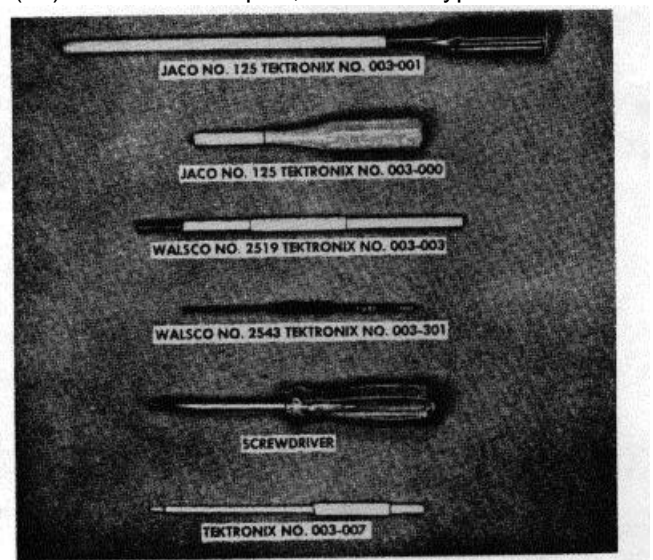

Fig. 6-1. Suggested Calibration Tools.
(6) Tektronix Type K or Type L Plug-In Unit. (If delayline adjustment is not required, other Tektronix Plug-In Units may be substituted.)
(7) Low-Capacitance Recalibration Tools: Tektronix part numbers 003-000-003-007 and 003-301. (See Recalibration Tools in Accessories Section of Operator's Manual and Fig. 6-1).
(8) Tektronix Type P6000 Probe.
(9) Test Oscilloscope, Tektronix Type 316 or equivalent, providing triggered sweeps and a bandpass of at least dc to 10 mc.
(10) Gain Set Adapter, Tektronix Type EP53A.